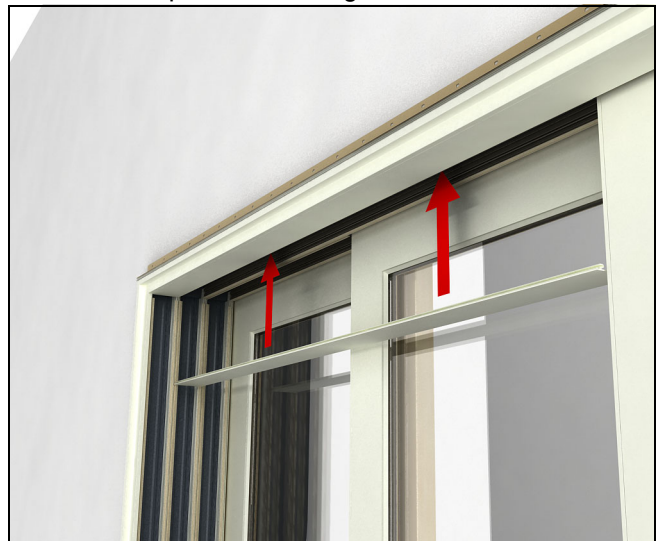

Figure 156
3. Install head jamb part stops onto head jamb, starting with exterior most part stop. Tap in place using a soft rubber mallet, ensuring barb inserted into proper kerf. Part stop will be tight to panel one in closed position. See figure 156.